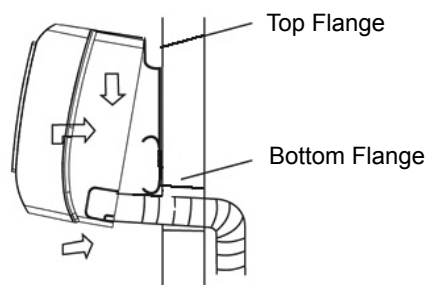

Fig. 12
- C. Hang the unit onto the top flanges of the wall bracket. Ensure the unit is properly seated. (Fig. 12)